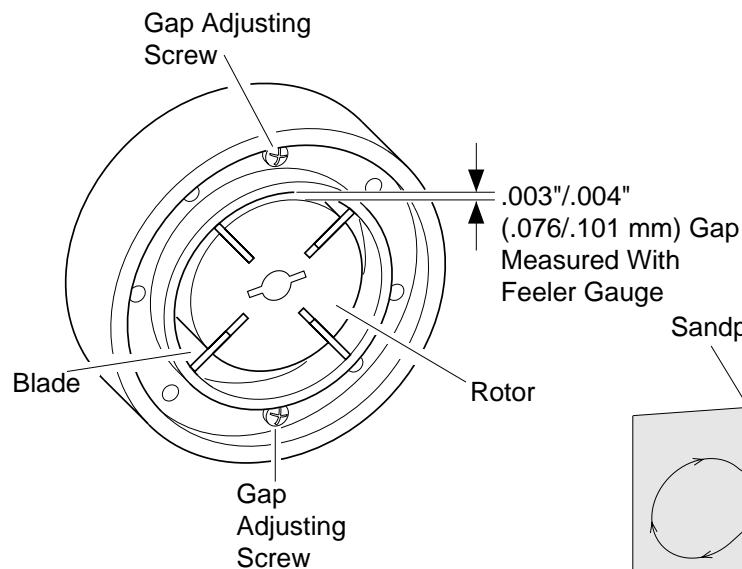

Figure 33 - Gap Adjusting Screw Locations
9. Check gap on rotor. Adjust to .003"/.004" (.076/.101 mm) if needed (see Figure 33).